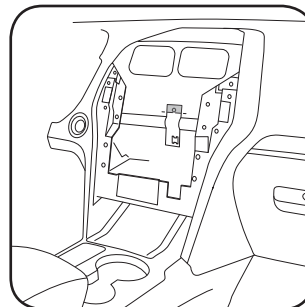

Fig. 1.7
7. Cut or bend metal bracket (if required). (Fig. 1.7)